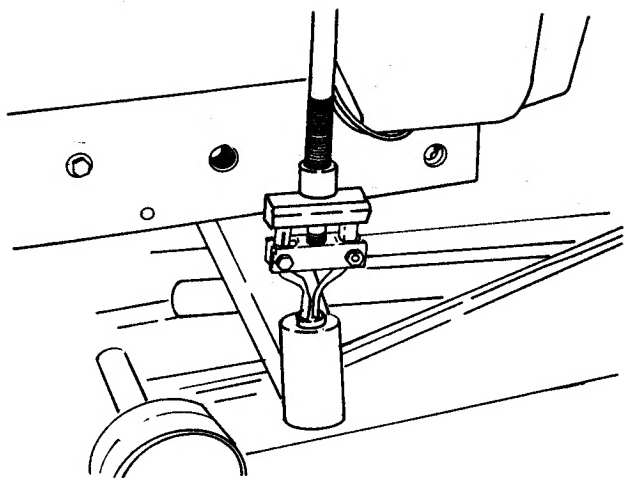

FIG. 2.13 — REMOVING SPINDLE BUSHINGS
6. Install new bushings, Fig. 2.13.
3. Remove spindle bushings. Fig. 2.13